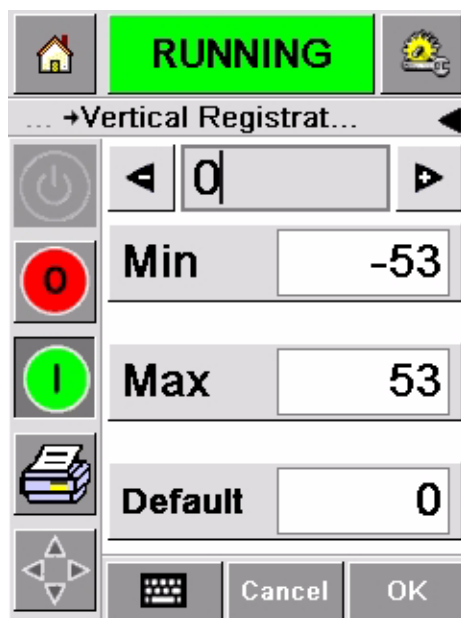

Figure 4-16: Vertical Registration Settings
- 5 Use the + or - buttons (Figure 4-16 on page 4-14) to make small adjustments in the parameter settings.